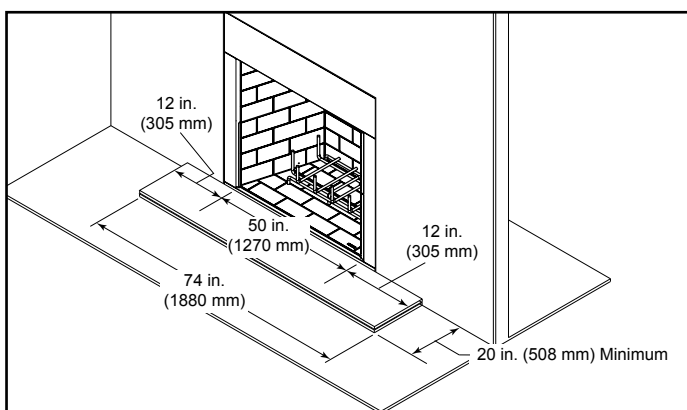

Figure 6.4 Standard Hearth Extension Dimensions
- Refer to Figure 6.4 for minimum dimensions.
The hearth framing must be constructed of non-combustible materials (such as metal framing or equivalent material) and placed on HX3(s) or HX4(s) and 1/2 in. Durock, or equivalent material. See Figures 6.4 and 6.5.